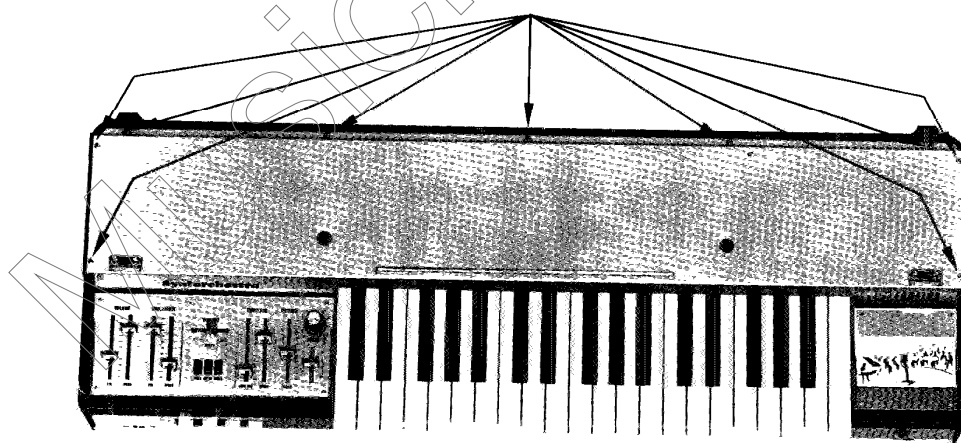

FIG. 2
- 2) *To reach inside the instrument remove the screws indicate in figure 2, The following parts can be reached:*